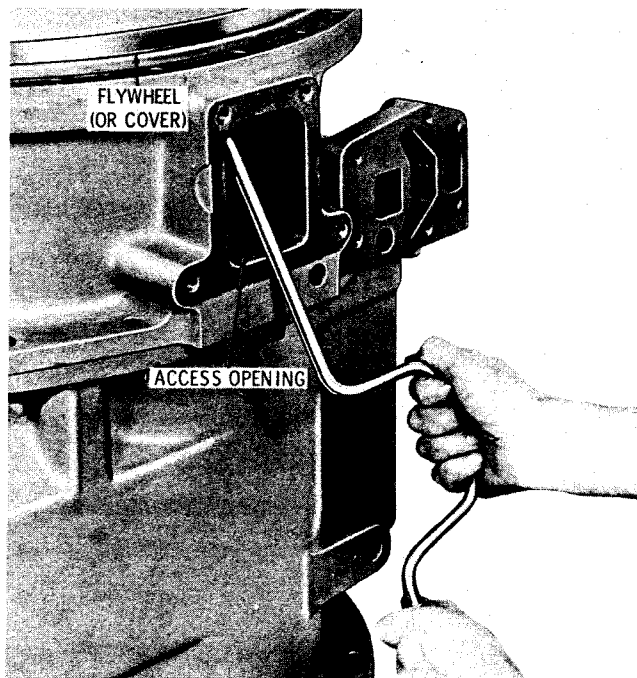

Fig. 5-13. Removing bolts which retain flywheel (or converter drive cover)
(4) Working through the access opening in the converter housing, and using a 9/16-inch wrench, remove 36 self-locking bolts and flat washers which retain the flywheel or converter drive cover (fig. 5-13).